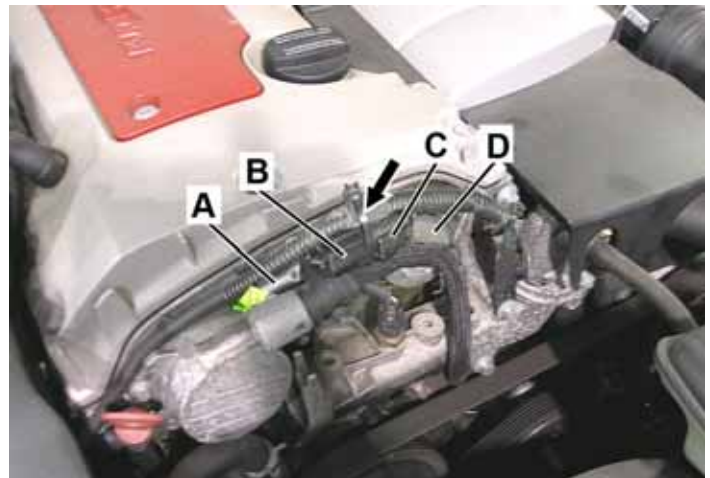

Figure 4
7. Install new adapter harness (A, Figure 4):
- Connect adapter harness (A) between connector on camshaft solenoid and engine harness (C, Figure 4).
- Secure adapter harness connector (B, Figure 4) to existing engine harness sheath with cable tie (arrow).